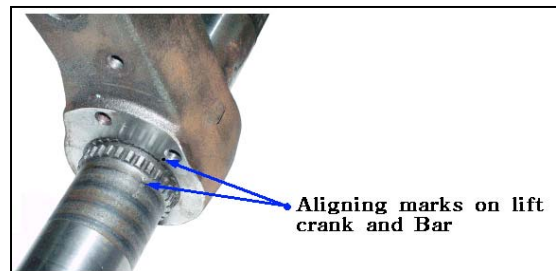

Fig.9-23
- 5) Install the lift shaft and lift crank together in accordance with the aligning marks on them. (Fig.9-23). Apply grease to the roll bush.